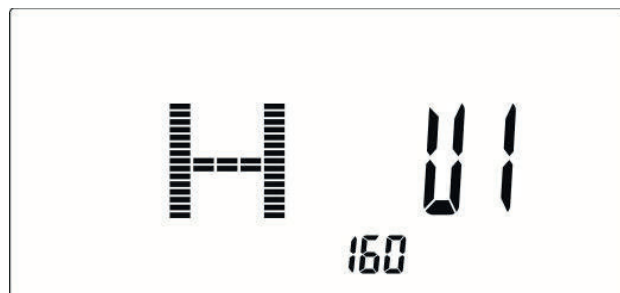

Fig. 2
4. Enter your gender, age, height (fig. 2), and weight with the jog dial and confirm each setting with MODE.